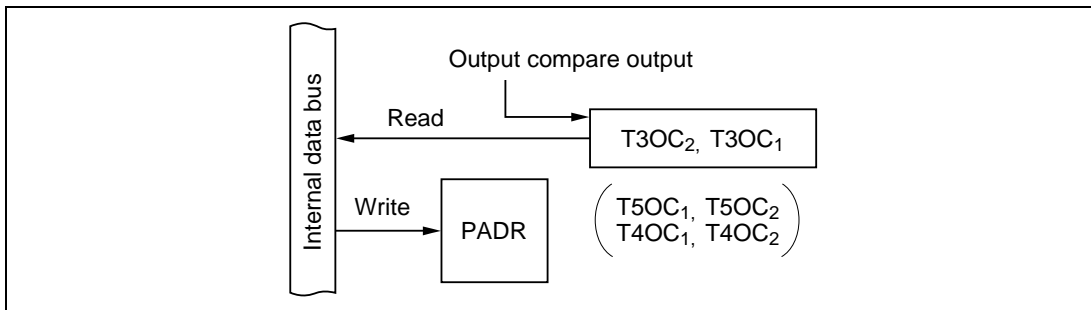

Figure 10-68 Output Compare Pins (Modes 1 to 7)
(6) Timer Output Pins (PA_6 , PA_5 , PA_3 to PA_0 ; Modes 1 to 7): Figure 10-68 shows a block diagram illustrating the timer output function. Table 10-51 indicates register read/write data. When PA_6 , PA_5 , and PA_3 to PA_0 are used for $T3OC_2$, $T3OC_1$, $T5OC_2$, $T5OC_1$, $T4OC_2$, and $T4OC_1$ output, values written in the port A data register (PADR) have no effect on the timer output. PADR can be read to monitor the timer output level ($T3OC_2$, $T3OC_1$, $T5OC_2$, $T5OC_1$, $T4OC_2$, $T4OC_1$).